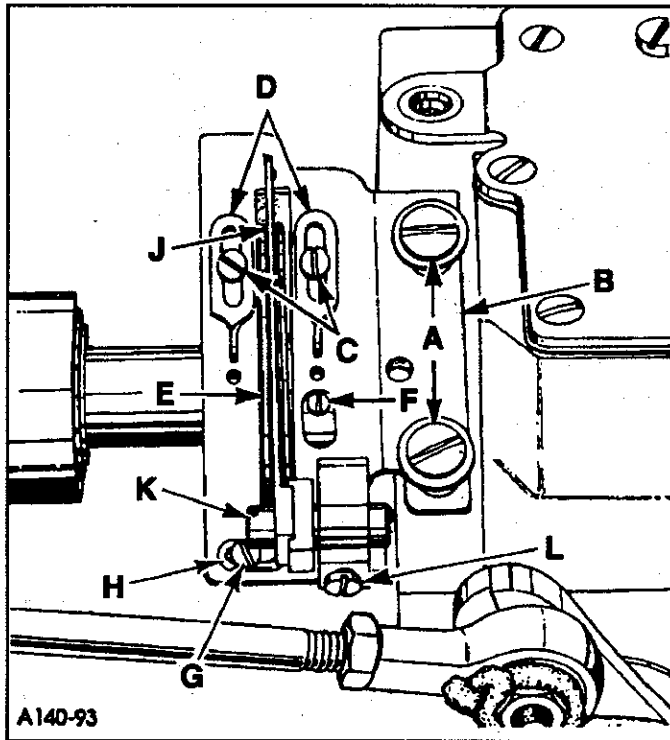

FIG. 25
The cast-off plate assembly (B, Fig. 25) is adjustable and its setting determines the amount of thread pull-off by the looper thread take-up cam. The cast-off plate assembly is set correctly when the looper thread take-up cam (E) is centered left to right in the slot and the looper thread just becomes taut as the looper reaches its extreme left position.